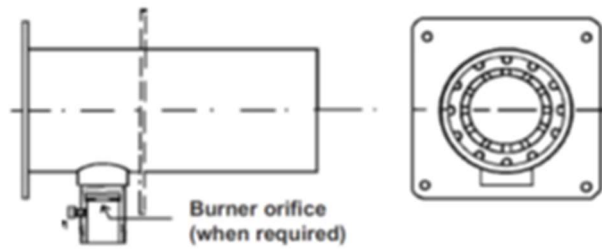

Figure 8: Burner pressure test port location Model "C"
- Install the (0-5 in.w.c.) pressure gauge on the test port located at burner inlet, downstream of the modulating valve (butterfly valve) see **Figure 8**.